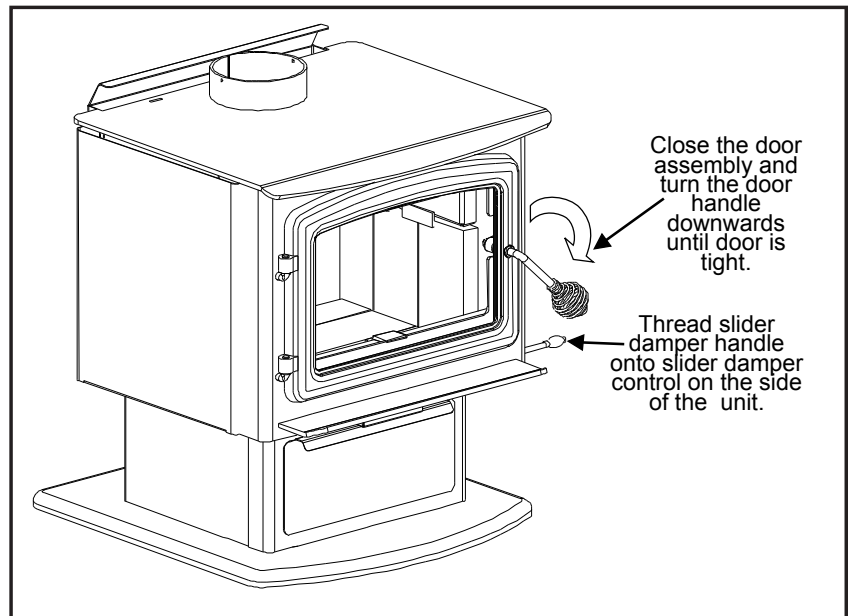

Figure 46: Closing Door.
3. Open and close the door, applying pressure down, to ensure the door assembly is properly seated on the hinges. Refer to Figure 46.